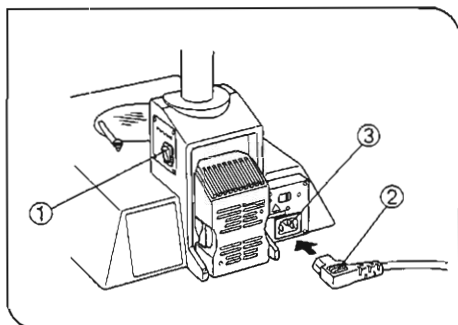

Fig. 10
(Figs. 10 & 11)
- ▲ Make sure the main switch ① is set to "O" (OFF) before connecting the power cord. (Fig. 10)
1. Insert the power cord plug ② into the connector ③ securely (Fig. 10).